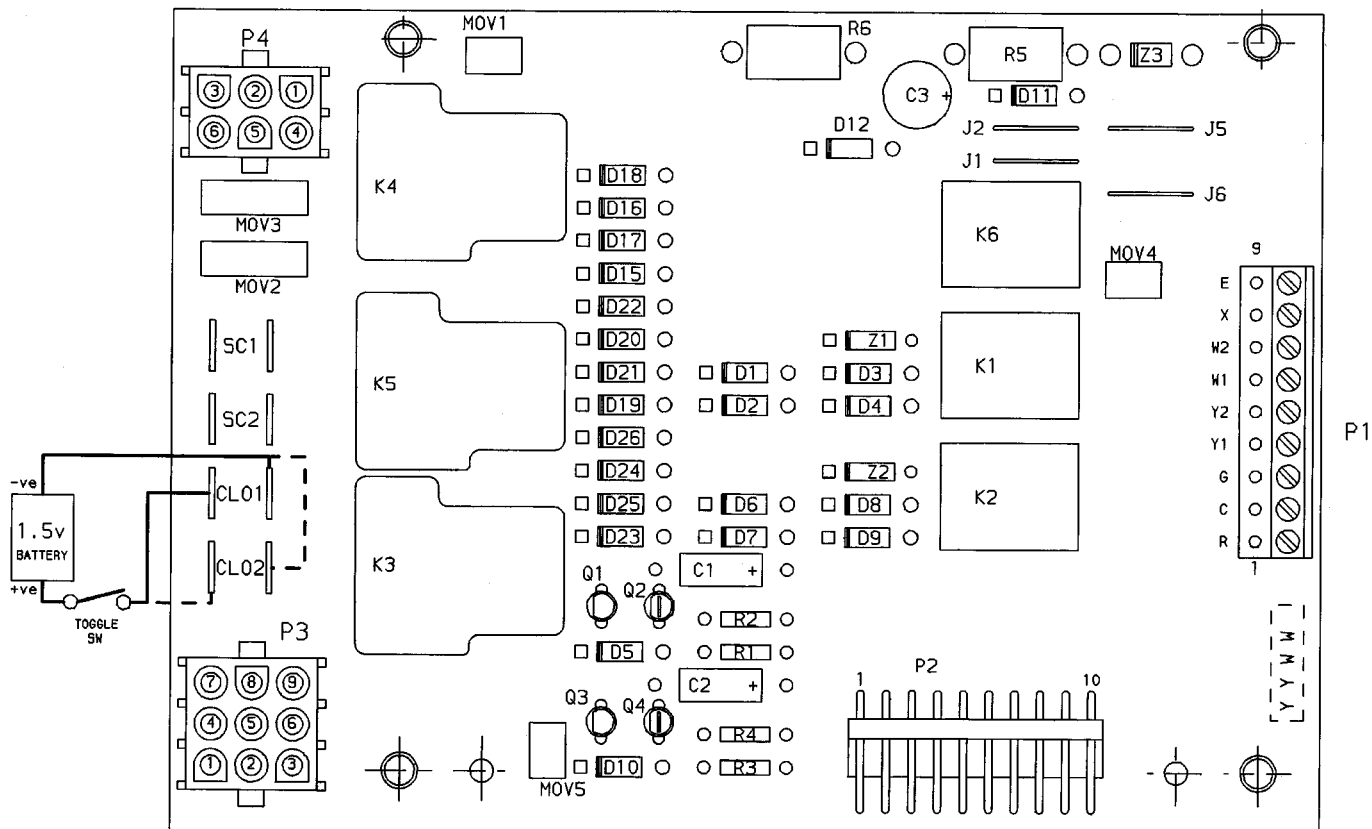

Fig. 51 — Compressor Lockout Connections
- d. Turn unit power off. Use a toggle switch to connect a fresh 1.5-v battery to the terminals marked CLO1 as shown in Fig. 51.
The negative (-Ve) pole of the battery must be connected to the inner terminal and the positive (+Ve) pole must be connected to the outer terminal as shown in Fig. 51.
- d. Turn unit power off. Connect a fresh 1.5-v battery to terminals marked CLO2 as shown in Fig. 51.
The negative (–Ve) pole of the battery must be connected to the inner terminal and the positive (+Ve) pole must be connected to the outer terminal as shown in Fig. 51.